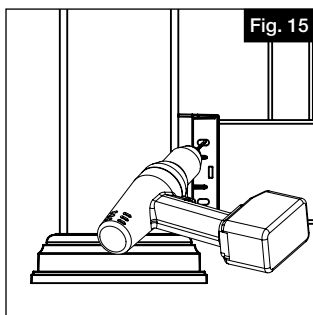

Fig. 15
- For each installed bracket, pre-drill in the center of each elongated hole with a 1/8" drill bit (Fig. 15).